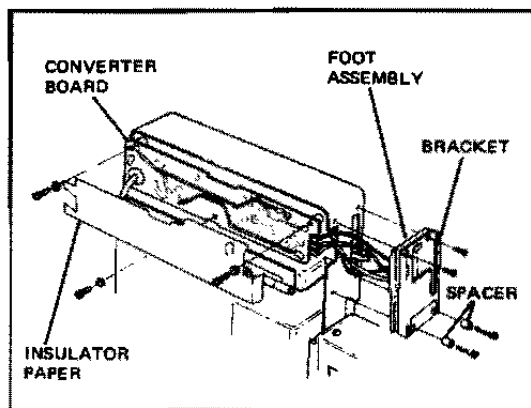

FIG. 4-16 REMOVING THE FOOT ASSEMBLY
- b. Release the foot assembly from the body (Figure 4-16):